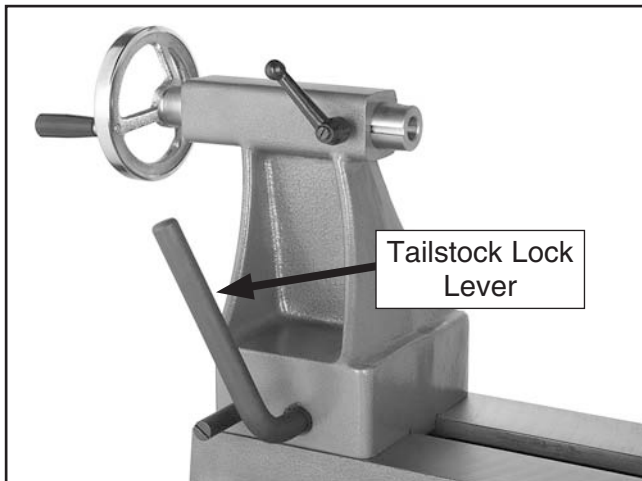

Figure 19. Tailstock lock lever location.
1. Loosen the tailstock lock lever and move the tailstock to the desired position along the bed, as shown in **Figure 19**.